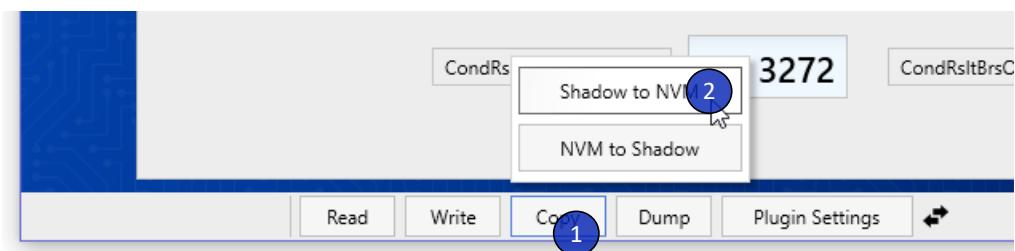
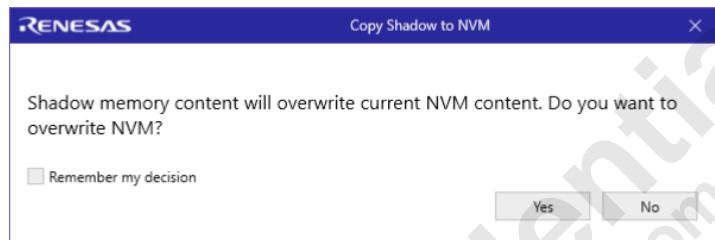

Figure 15. Copy Shadow to NVM
Figure 16. NVM Overwriting Confirmation
1. Copy the Shadow memory to the NVM using the “Copy” and “OK” buttons for confirmation (see Figure 15 and Figure 16).